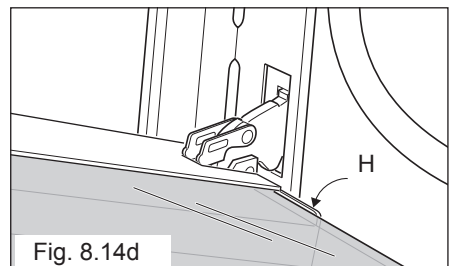

Fig. 8.14d
- Insert the inner pane in the left "E" and right "F" side guides (fig. 8.14c) and gently let it slide up to the retainers "H" (fig. 8.14d).